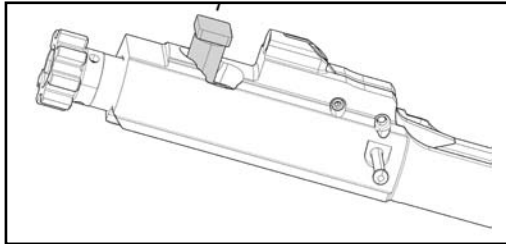

Fig. 27 – Remove the Cam Pin
- e. Lift up and remove the cam pin from the shaft of the bolt head (Fig. 27).